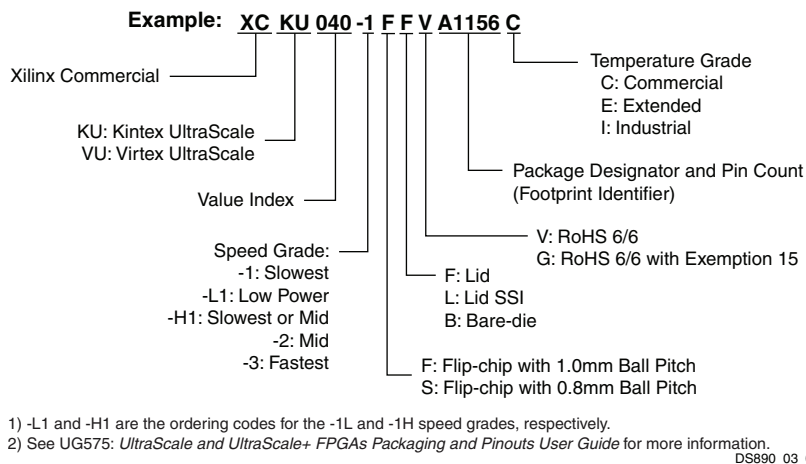
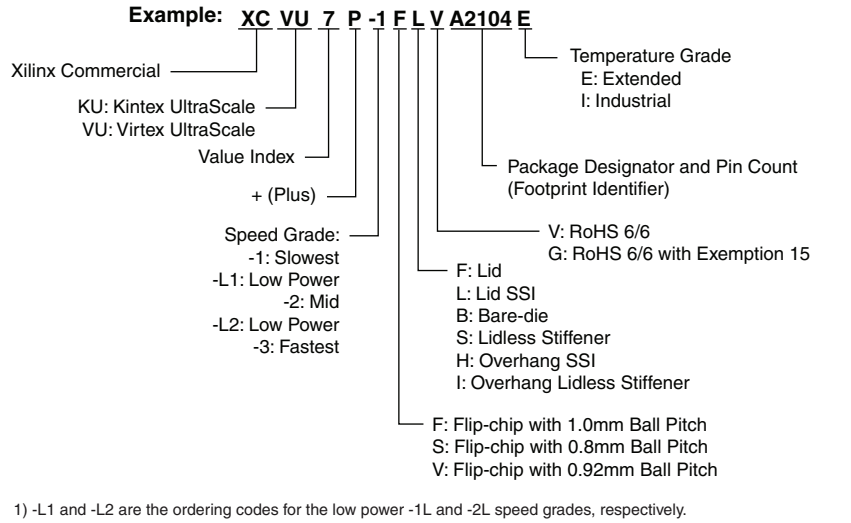
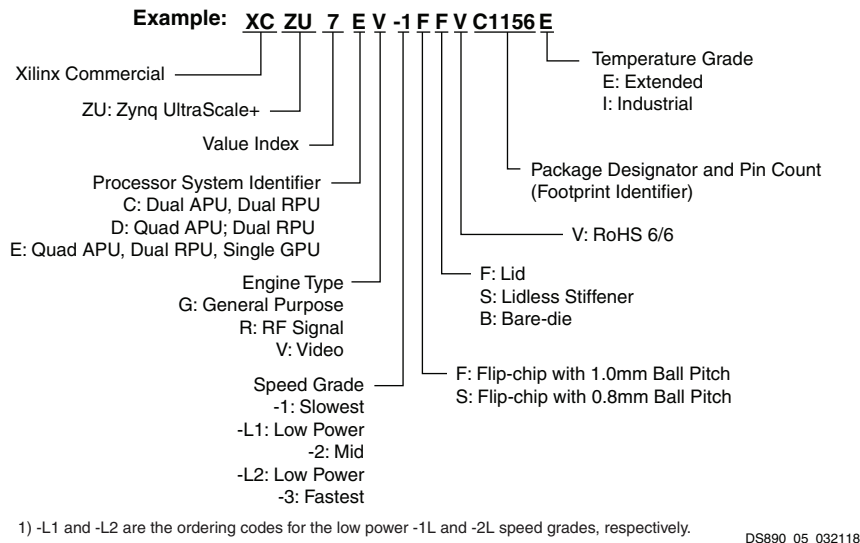

Figure 3: Kintex UltraScale and Virtex UltraScale FPGA Ordering Information
Figure 4: UltraScale+ FPGA Ordering Information
Figure 5: Zynq UltraScale+ MPSoC and RFSocC Ordering Information
The ordering information shown in Figure 3 applies to all packages in the Kintex UltraScale and Virtex UltraScale FPGAs. Refer to the Package Marking section of UG575, UltraScale and UltraScale+ FPGAs Packaging and Pinouts User Guide for a more detailed explanation of the device markings.
The ordering information shown in Figure 4 applies to all packages in the Kintex UltraScale+ and Virtex UltraScale+ FPGAs, and Figure 5 applies to Zynq UltraScale+MPSoCs and RFSocCs.
| 11/15/2017 | 3.1 | Updated Table 20 with FSVE1156, FSVG1517, and FSVF1760 packages. Updated Figure 5 . |
| 10/03/2017 | 3.0 | Added Zynq UltraScale+ RFSoc information throughout document. Updated General Description , Table 1 , RF Data Converter Subsystem Overview , Soft Decision Forward Error Correction (SD-FEC) Overview , Processing System Overview (including Table 2), Configuration , Encryption , and System Monitoring , Table 23 , Table 25 , and Figure 5 . Updated UltraRAM ZU4CG/ZU4EG/ZU4EV values in Table 13 , Table 15 , Table 17 . Added Table 19 , Table 20 , RF Data Converter Subsystem Overview , and Soft Decision Forward Error Correction (SD-FEC) Overview . Updated Figure 3 , Figure 4 , and Figure 5 . |
| 06/03/2016 | 2.8 | Added Zynq UltraScale+ MPSoC CG devices: Added Table 2 . Updated Table 13 , Table 14 , Table 25 , and Figure 5 . Created separate tables for EG and EV devices: Table 15 , Table 16 , Table 17 , and Table 18 . Updated Table 1 , Table 3 , Table 5 and notes, Table 6 and notes, Table 7 , Table 9 , Table 12 , Processing System Overview , and Processing System (PS) details. |
| 02/17/2016 | 2.7 | Added Migrating Devices . Updated Table 4 , Table 5 , Table 6 , Table 12 , Table 13 , Table 14 , and Figure 4 . |
| 10/15/2015 | 2.4 | Updated Table 1 , Table 3 , Table 5 , Table 7 , Table 9 , and Table 13 with System Logic Cells. Updated Figure 3 . Updated Table 23 . |
| 09/29/2015 | 2.3 | Added A1156 to KU095 in Table 4 . Updated Table 5 . Updated Max. Distributed RAM in Table 9 . Updated Distributed RAM in Table 13 . Added Table 23 . Updated Table 25 . Updated Figure 3 . |
| 04/27/2015 | 2.1 | Updated Table 1 , Table 3 , Table 4 , Table 5 , Table 6 , Table 7 , Table 12 , Table 13 , Table 14 , Table 21 , I/O , Transceiver , PCIe , 100G Ethernet , and 150G Interlaken , Integrated Interface Blocks for PCI Express Designs , USB 3.0/2.0 , Clock Management , System Monitor , and Figure 3 . |
| 11/17/2014 | 1.5 | Updated I/O , Transceiver , PCIe , 100G Ethernet , and 150G Interlaken ; Table 1 ; Table 4 ; Table 7 ; Table 8 ; Table 21 ; Input/Output ; and Figure 3 . |
| 09/16/2014 | 1.4 | Updated Logic Cell information in Table 1 . Updated Table 3 ; I/O , Transceiver , PCIe , 100G Ethernet , and 150G Interlaken ; Table 7 ; Table 8 ; Integrated Block for 100G Ethernet ; and Figure 3 . |